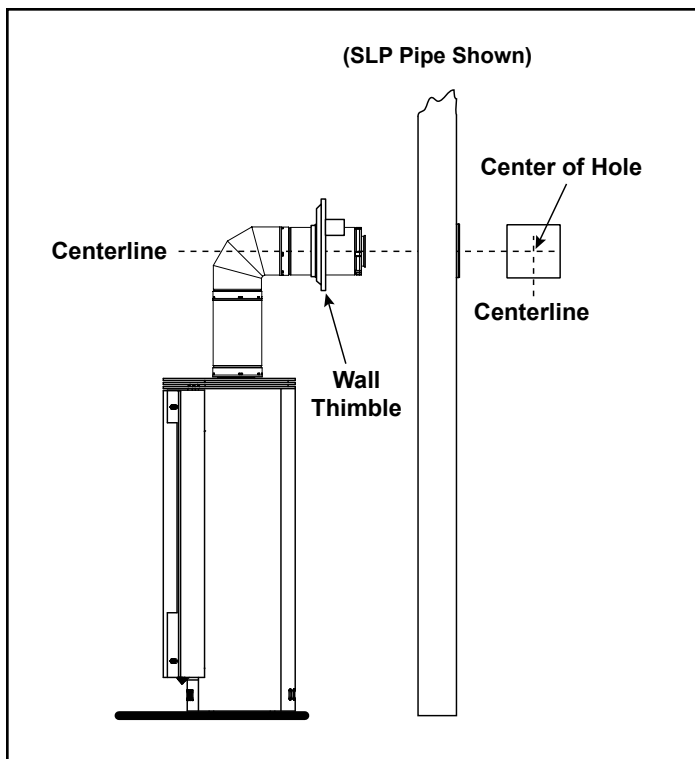

Figure 5.5
4. For installations using a round support box/wall thimble (check pipe manufacturer's instructions), mark the wall for a 10 in. x 10 in. (254 mm x 254 mm) square hole. The center of the square hole should line up with the center line of the horizontal pipe, as shown in **Figure 5.5**. Cut and frame the hole in the exterior wall where the vent will be terminated. If the wall being penetrated is constructed of noncombustible material, i.e. masonry block or concrete, a 7 in. (178 mm) diameter hole is acceptable.